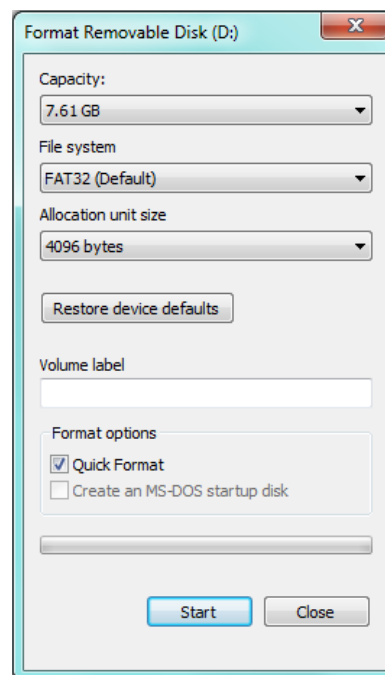

Figure 15 Format the USB Drive
7. Right-click on the drive and select the option marked 'Format'. The window will open as per *Figure 15*.